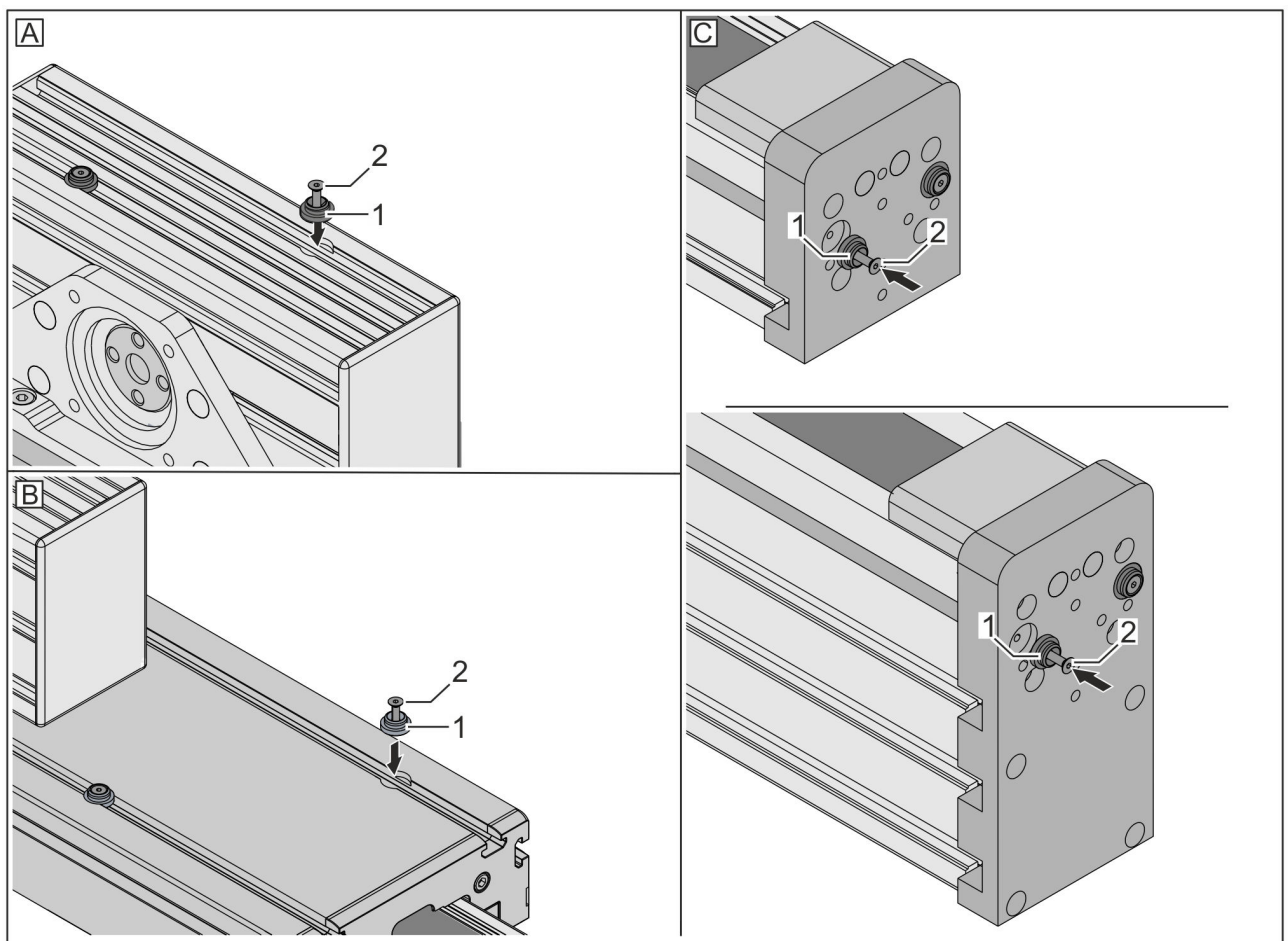

Fig. 41: Assembling the centring sets
- on the pulley housing of the standard guide carriage (Fig. 41/A)
- on the extended guide carriage (Fig. 41/B)
- at the end plates of the timing belt tensioning set (Fig. 41/C)
Place the centring sets (Fig. 41/1) in the holes provided for this purpose.
2. ➤ Tighten the screw (Fig. 41/2):